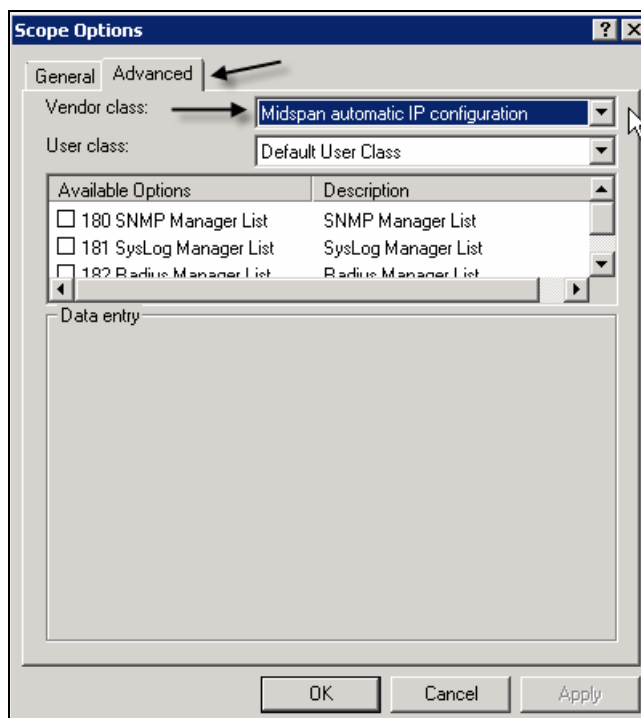

Figure 4-31: Midspan Scope Options
4. Select the Advanced tab (Figure 4-31).